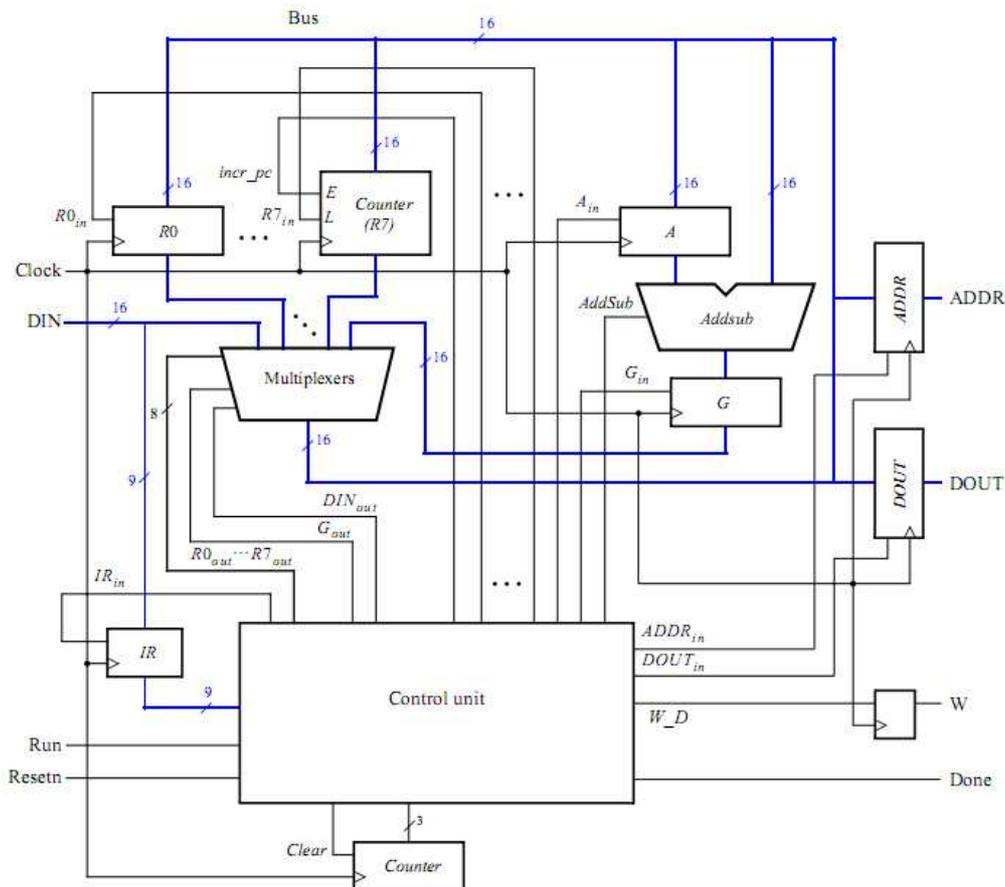

Figure 7. An enhanced version of the processor.
A schematic of the enhanced processor is given in Figure 7. In this figure, registers R0 to R6 are the same as in Figure 1 of Laboratory Exercise 9, but register R7 has been changed to a counter. This counter is used to provide the addresses in the memory from which the processor's instructions are read; in the preceding lab exercise, a counter external to the processor was used for this purpose. We will refer to R7 as the processor's program counter (PC), because this terminology is common for real processors available in the industry. When
Figure 7 shows two registers in the processor that are used for data transfers. The ADDR register is used to send addresses to an external device, such as a memory module, and the DOUT register is used by the processor to provide data that can be stored outside the processor. One use of the ADDR register is for reading, or fetching, instructions from memory; when the processor wants to fetch an instruction, the contents of PC (R7) are transferred across the bus and loaded into ADDR. This address is provided to memory. In addition to fetching instructions, the processor can read data at any address by using the ADDR register. Both data and instructions are read into the processor on the DIN input port. The processor can write data for storage at an external address by placing this address into the ADDR register, placing the data to be stored into its DOUT register, and asserting the output of the W (write) flip-flop to 1.